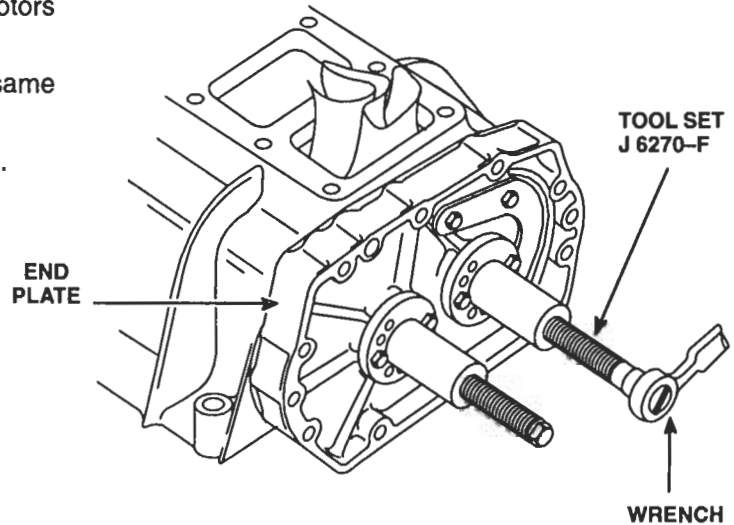

Figure 7. Removing Blower End Plate
- d. Turn the two pullers screws uniformly clockwise and withdraw the end plate and bearings from the blower housing and rotors (Figure 7.)